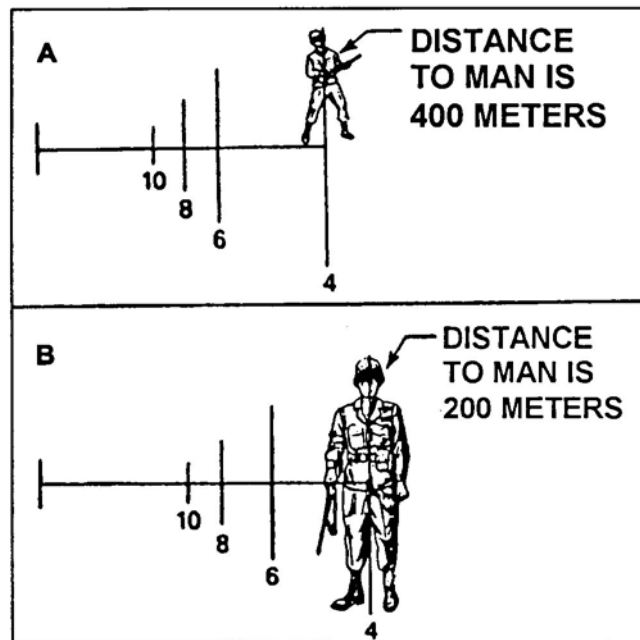

Figure 2. Determining Range
- a. Place the figure on the horizontal line and match it with the vertical line (A, Figure 2).
- c. If the figure is the same height as the vertical line above and below the horizontal line, divide the distance in half. In A, Figure 2, the man above the horizontal line is 400 meters away. In B, Figure 2, the man above and below the line is 200 meters away.